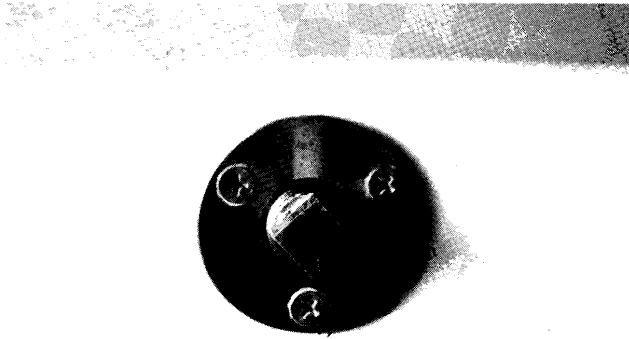

Figure 32
1. Remove the hull drain plug. The plug is in the outside of the transom below the gimbal. See figure 32.